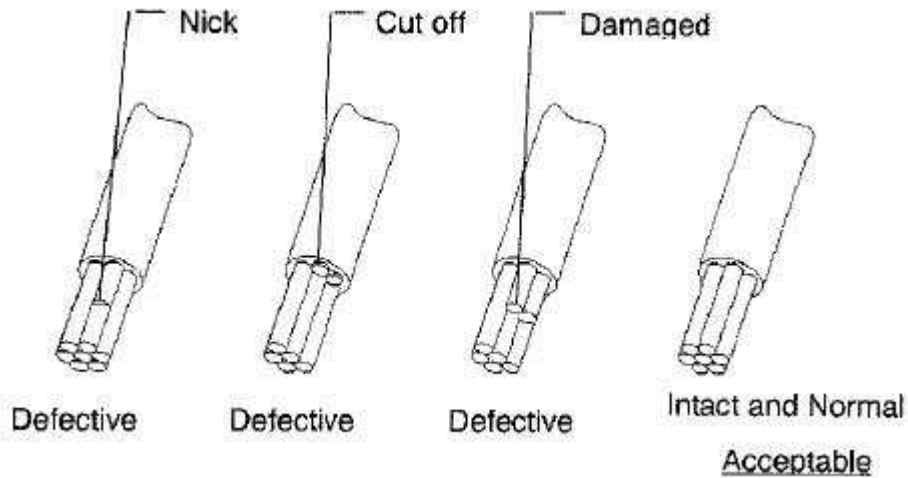

Fig. 6
4.1.1 Applicable Wire. See Fig.6 for applicable wire.